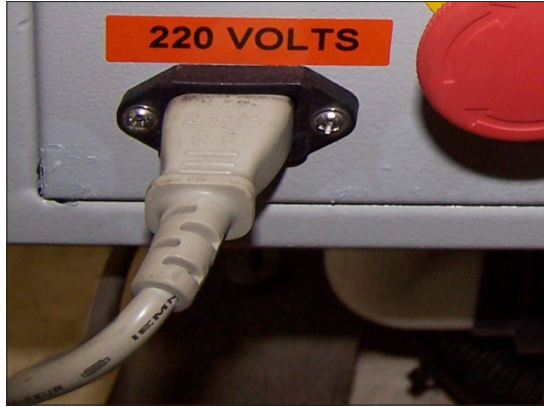

Fig. 1.2
1.2 - Have a suitably qualified person connect power to the controller. The machine requires 220V single phase power in order to operate. Plug the power cable into the rear of the machine as shown in figure 1.2